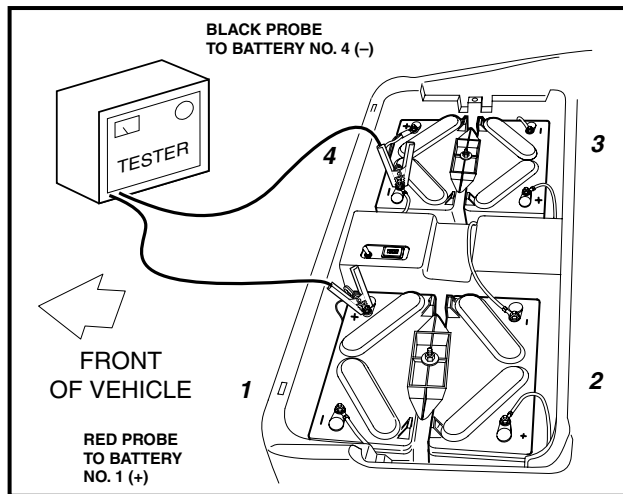

Figure 11-10 Battery Discharge Test
2. Connect the tester leads to the positive (+) post of battery no.1 and negative (-) post of battery no. 4 (Figure 11-10, Page 11-24)